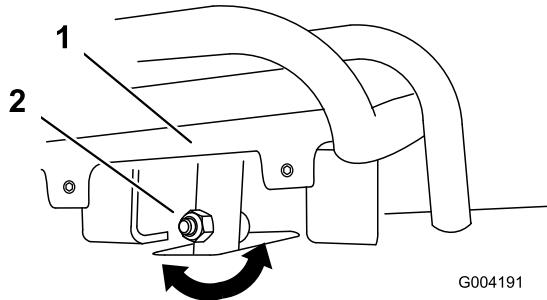
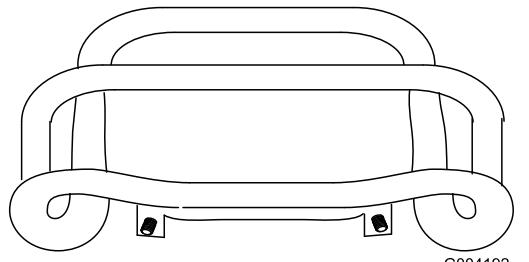

Figure 55
Figure 56
4. If the front of the traction control does not rest square and flush with the reference bar, loosen the nut and bolt in the stem of the traction control (Figure 55).
5. Adjust the traction control so that it rests flush against the reference bar when it is pulled straight back (Figure 55 and Figure 56).
- Loosen the flange nut and bolt in the stem of the traction control (Figure 55).
- I. Adjust the traction control so that it rests flush against the reference bar when it is pulled straight back (Figure 55 and Figure 56).